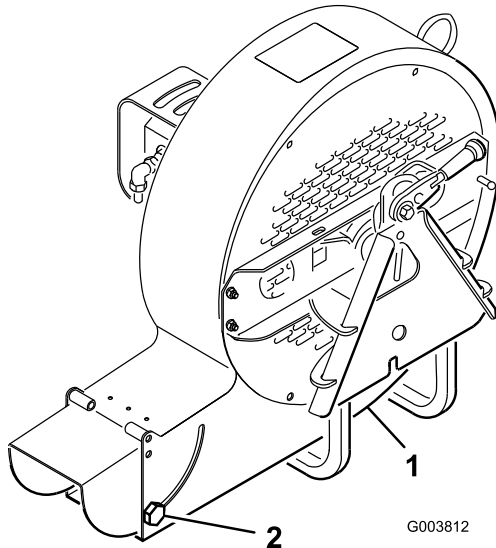

Figure 9
The discharge opening (Figure 9) is adjustable to direct the air flow from the blower.
1. Loosen discharge opening deflector mounting screws (Figure 9).